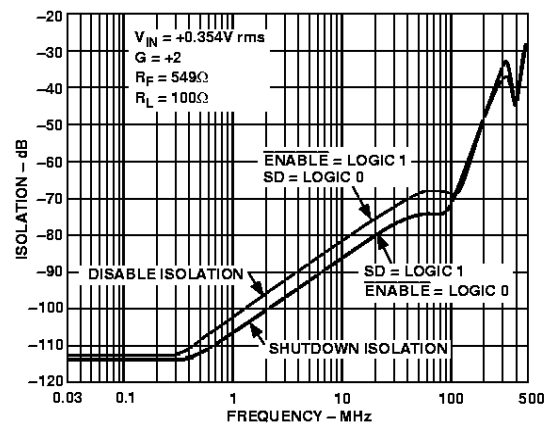

Figure 14. AD8174R Disable and Shutdown Isolation vs. Frequency
⁷AD8174 only. Shutdown (SD) pin is grounded. Mux is disabled, (i.e., $\overline{\text{ENABLE}} = \text{Logic 1}$) and all inputs are driven simultaneously with $V_{IN} = 0.354$ V rms. Output is monitored at $f = 5$ MHz and 30 MHz; $R_L = 100$ Ω. In this mode, the output impedance of the disabled mux is very high (typ 10 MΩ), and the signal couples across the package; the load impedance and the feedback network determine the crosstalk. For instance, in a closed-loop gain of +1, $r_{OUT} \cong 10$ MΩ, in a gain of +2 ($R_F = R_G = 549$ Ω), $r_{OUT} = 1.1$ kΩ (see Figure 14).
⁸AD8174 only. $\overline{\text{ENABLE}}$ pin is grounded. Mux is shutdown (i.e., SD = Logic 1), and all inputs are driven simultaneously with $V_{IN} = 0.354$ V rms. Output is monitored at $f = 5$ MHz and 30 MHz; $R_L = 100$ Ω. (see Figure 14). The mux output impedance in shutdown mode is the same as the disabled mux output impedance.